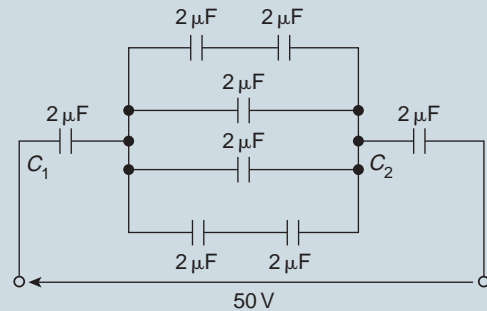

Figure 8.14
12. For the circuit shown in Fig. 8.14, determine (a) the total circuit capacitance, (b) the total energy in the circuit and (c) the charges in the capacitors shown as C_1 and C_2